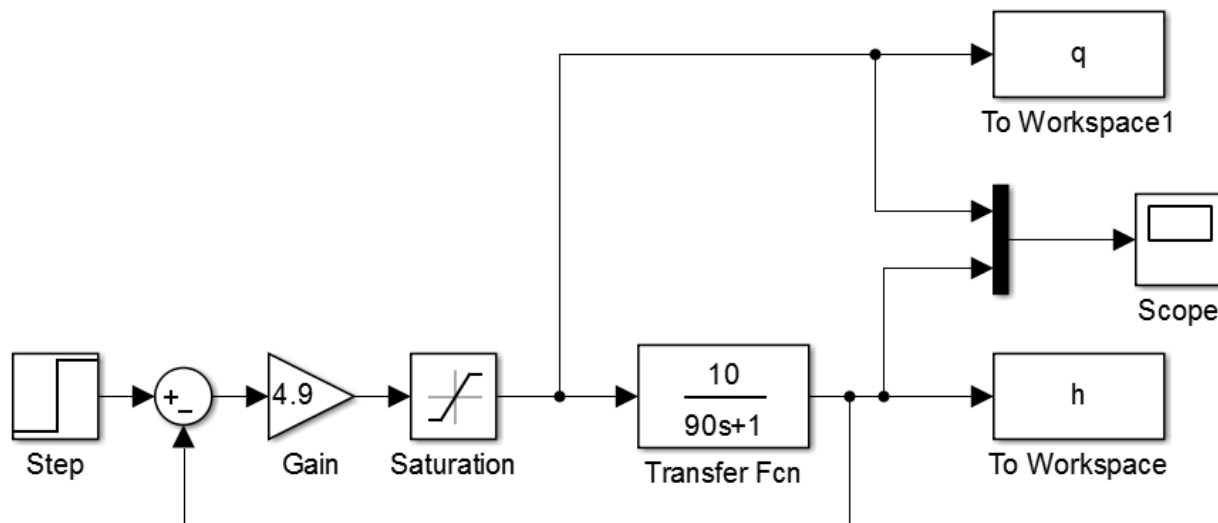

Figure 6: Simulink model
- 6.4.3 Build the model in Figure 6. You can browse the library menu to find the blocks or use the search. The vertical black bar is a “mux” (short for multiplexer). To make a branch off of a line, hold CTRL while clicking and dragging the line. Note: yours might look different, just make sure connections and blocks are correct.